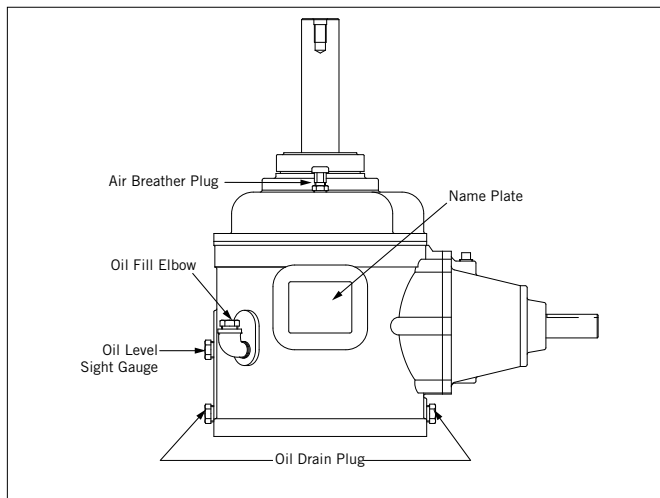

Figure 6. Single Reduction Gear Drive
- Prior to the start-up, check all fittings on the gear drive to ensure that there are no visible leaks. Refer **Figure 6** for locations of the gear drive fittings.
- Refill the gear drive through the oil fill elbow with the recommended type and amount of lubricant (**Table 3**). Refer to **Figure 6** for locations of these components.